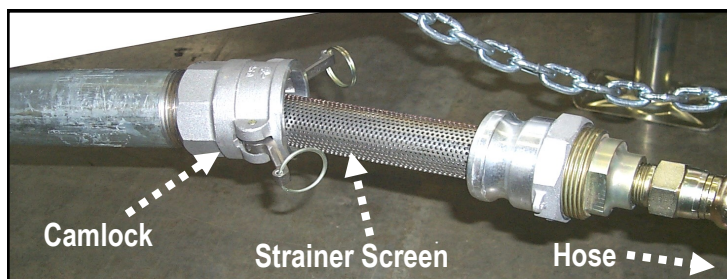

Fig. 6 Texture Strainer Assembly (between pump and hose)
5. To prevent dry-packing the pump, pre-mix one or two gallons of texture slurry to fill the pump body cavity. Open the strainer assembly by releasing the cam-locks (See Fig. 6)